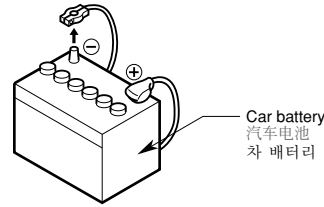

Figure 1 / 图 1 / 그림 1
- Be sure to disconnect the battery "⊖" terminal before starting. This is to prevent short circuits during installation. (Figure 1)
- 开始之前请务必断开电池的“⊖”端子，以免在安装中造成短路。（图1）